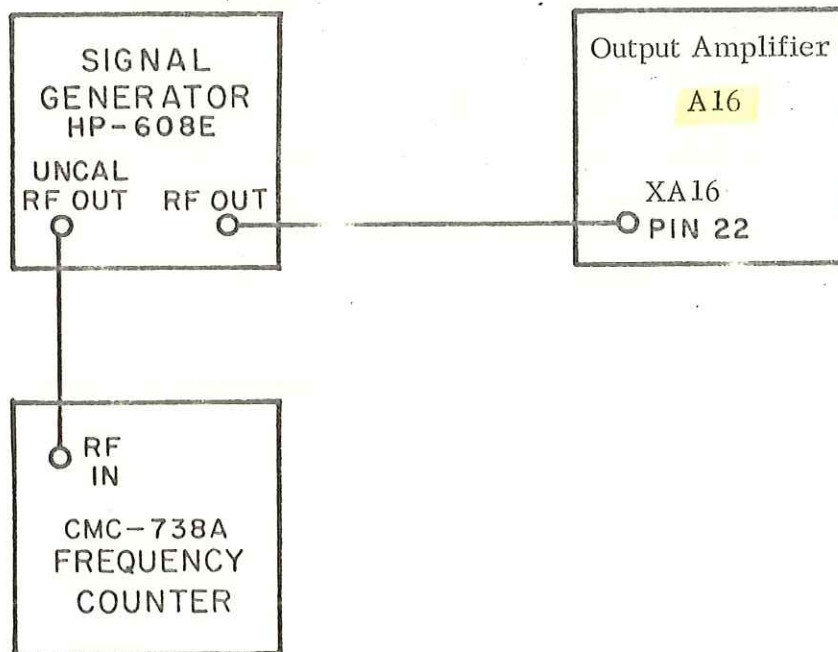

Figure 4-20. Test Setup, 21.4 MHz RF Alignment
- (1) Set the SWEEP WIDTH control to maximum CCW.
- (2) Connect the test equipment as shown in Figure 4-20.